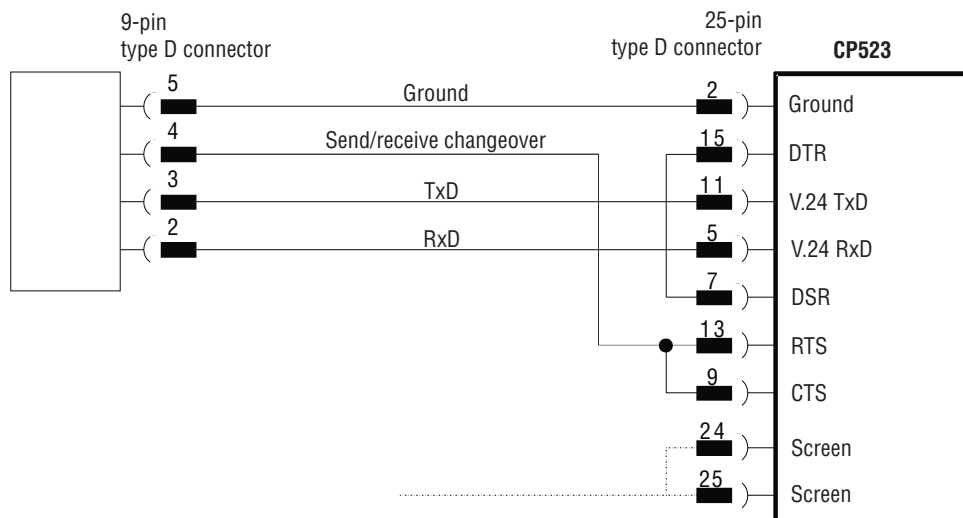

Figure 9: Pin assignment of the interface cable for the CP523 - MOVIDYN[®]
- 1 interface cable (see Fig. 9)